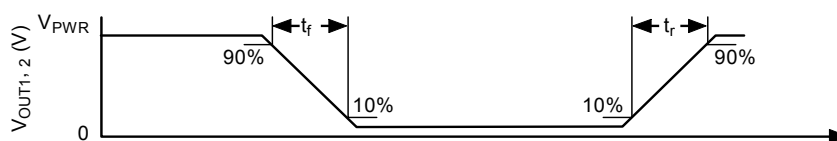

Figure 4. Output Switching Time
25. Rise Time is from the 10% to the 90% level and Fall Time is from the 90% to the 10% level of the output signal. See Figure 4, page 11.